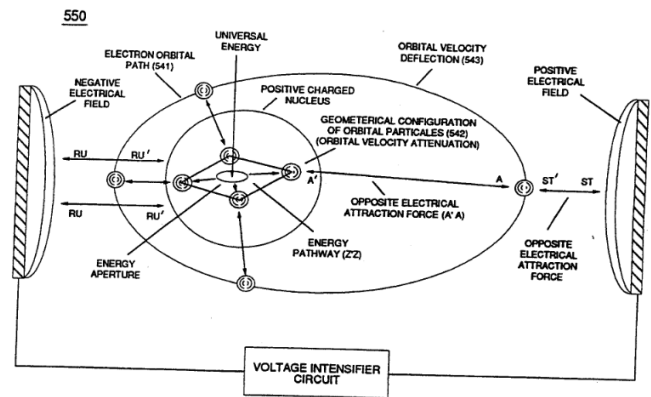

FIGURE 5-8: COVALENT SWITCH-OFF
Electrical Attraction Force intensity (RR' - SS' as to RU/RU' - ST/ST' as to 550 of Figure 5-8) at **Peak Voltage Potential (Vpp)** is either increasing or decreasing or remaining constant as to **Voltage**
In terms of **Particle Oscillation (Poe)** as a **Energy-Generator (EGpo)**, if **Voltage Arc Line (Val)** length is extended while **Voltage Amplitude** (xx 64a - 64b - 64c - Vn) is adjusted to higher **Voltage Peak-Potential (Vpp)** then greater atomic interaction (585) of Figure (8-1) (see *WFC memo 424 titled Atomic Energy Balance of Water, once again*) occurs when particle oscillation (Poe) of deflection of atomic mass (see 550 of Figure 5-8) (**atom elongation**) is electrically stressed farthest from the point of state of atomic-equilibrium by way of **opposite Voltage Electrical Attraction Force** (RR' - SS' as to RU/RU' - ST/ST'), as further illustrated in (500) of Figure (5-1) as to (510) of Figure (5-2).
(550 of Figure 5-8)